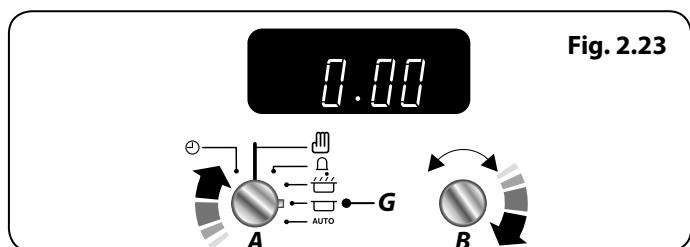

Fig. 2.23
1. Turn the **Timer (A)** knob to the **Stop Time (G)** setting (Fig. 2.23).
2. Turn the **Adjusting (B)** knob clockwise, the display will show the current time of day (Fig. 2.23).